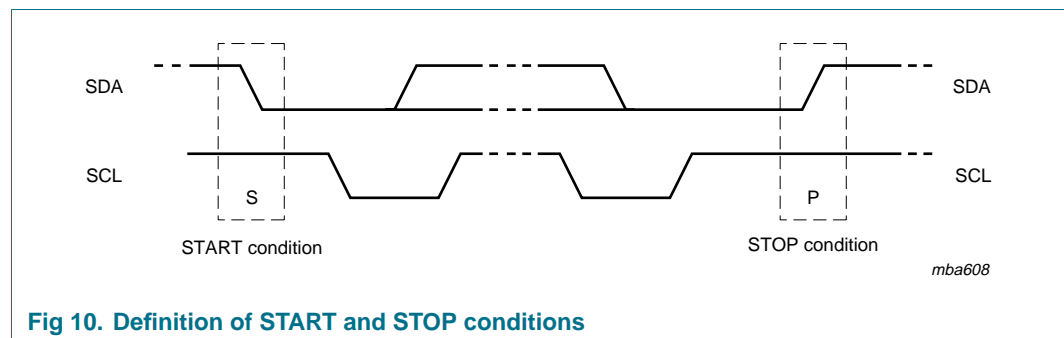

Fig 10. Definition of START and STOP conditions
Both data and clock lines remain HIGH when the bus is not busy. A HIGH-to-LOW transition of the data line while the clock is HIGH is defined as the START condition (S). A LOW-to-HIGH transition of the data line while the clock is HIGH is defined as the STOP condition (P) (see Figure 10.)